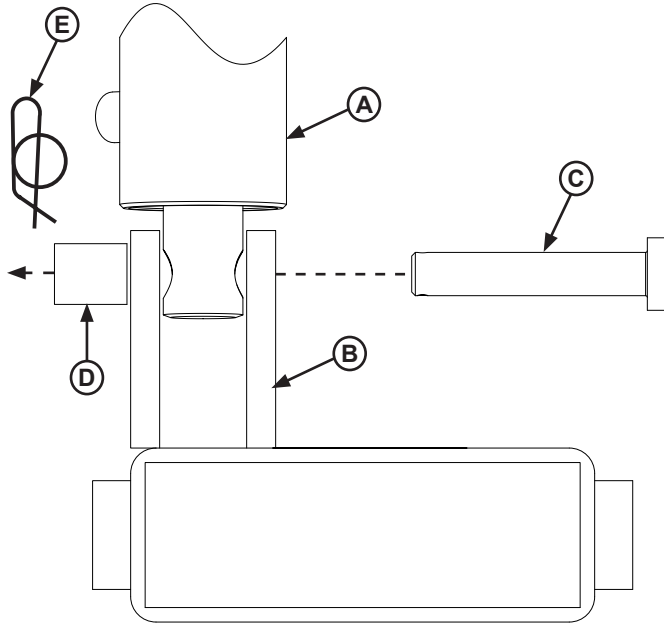

Figure 8
4. If necessary, use control panel to extend lifting cylinder rod. Connect lifting cylinder (A) rod to barrier arm (B) by sliding cylinder pin (C) through the barrier arm, cylinder rod and spacer (D), then secure with rue clip (E). Grease barrier arm pivot pin at pivot tube (F). See Figures 8 and 9.